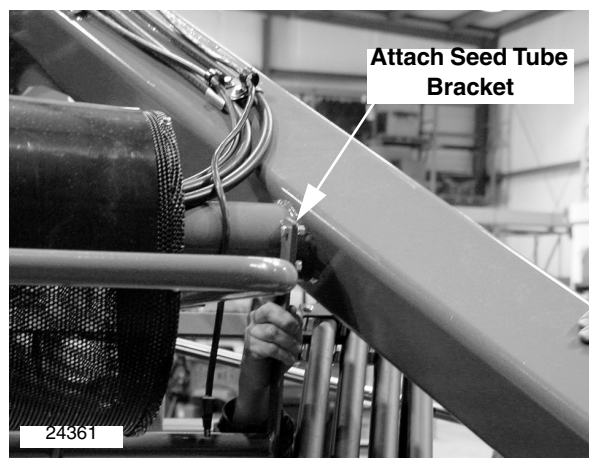

Figure 6
Refer to Figure 6
16. Attach seed tube bracket to frame location shown in Figure 6.